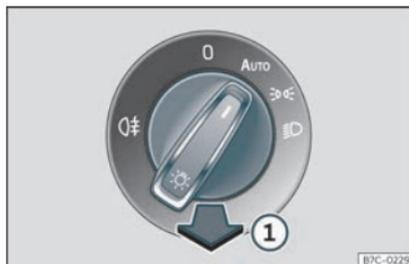

Fig. 88 Dash panel: lights control.
- **Turning on the rear fog light** (fog lamp symbol): pull the light switch fully out >>> Fig. 88 ① from position >>>, D or **AUTO**.